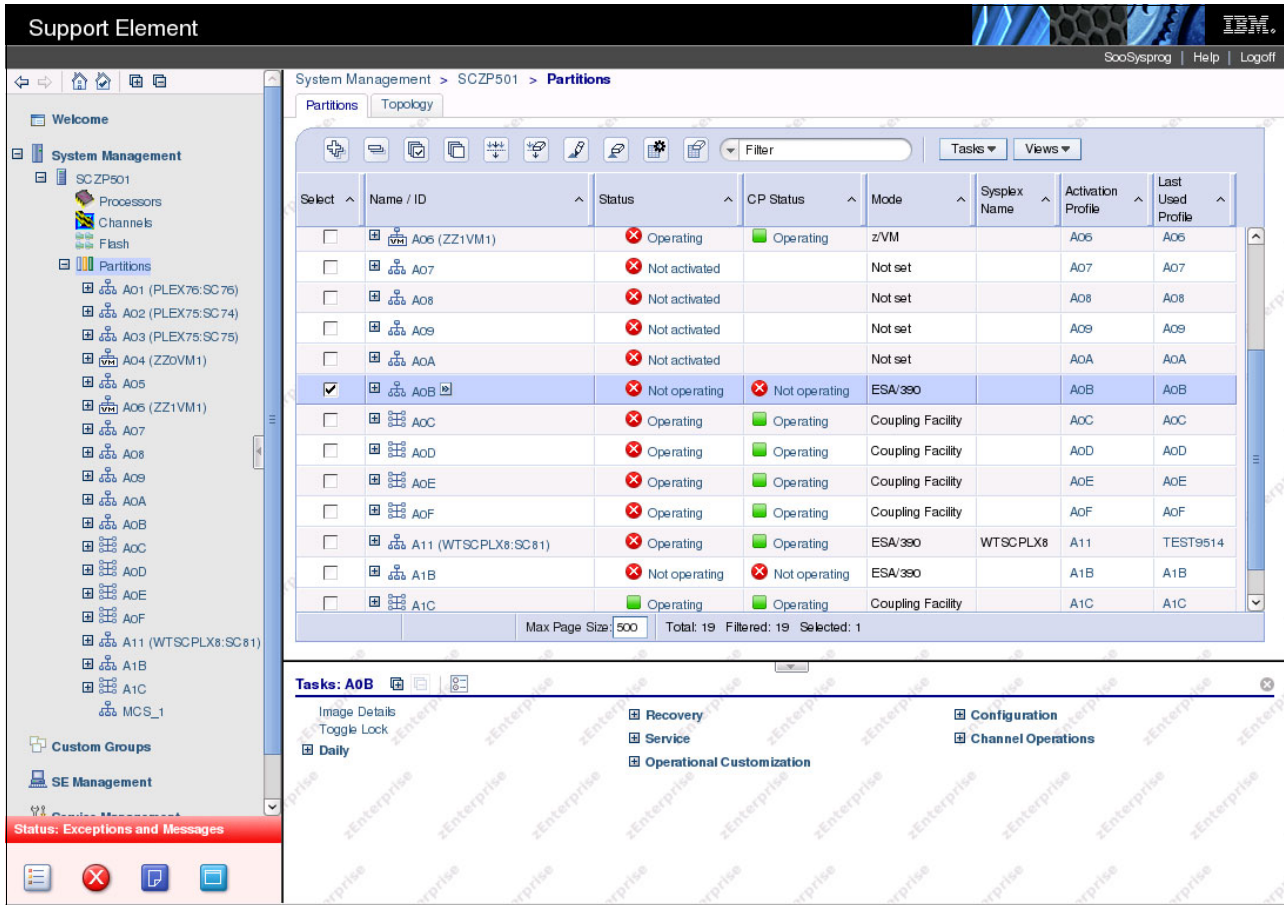

Figure 8-117 HMC - SAIOCP: partition selected for SAIOCP program load
8. Under Partitions, select the LPAR you want to use to run the Stand-Alone IOCP program (in this example, A0B) as shown in Figure 8-117 on page 501.